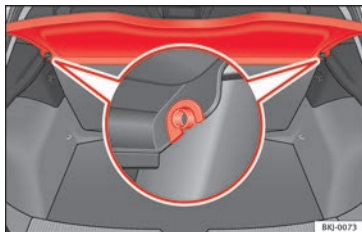

Fig. 141 In the luggage compartment: removing and installing the rear shelf.
- Remove the shelf from the side supports »» Fig. 141 pulling it up and out.
- Insert the rear shelf horizontally so that it coincides with the “plate” on the axis of the supports »» Fig. 141 and press down until it clicks into place.